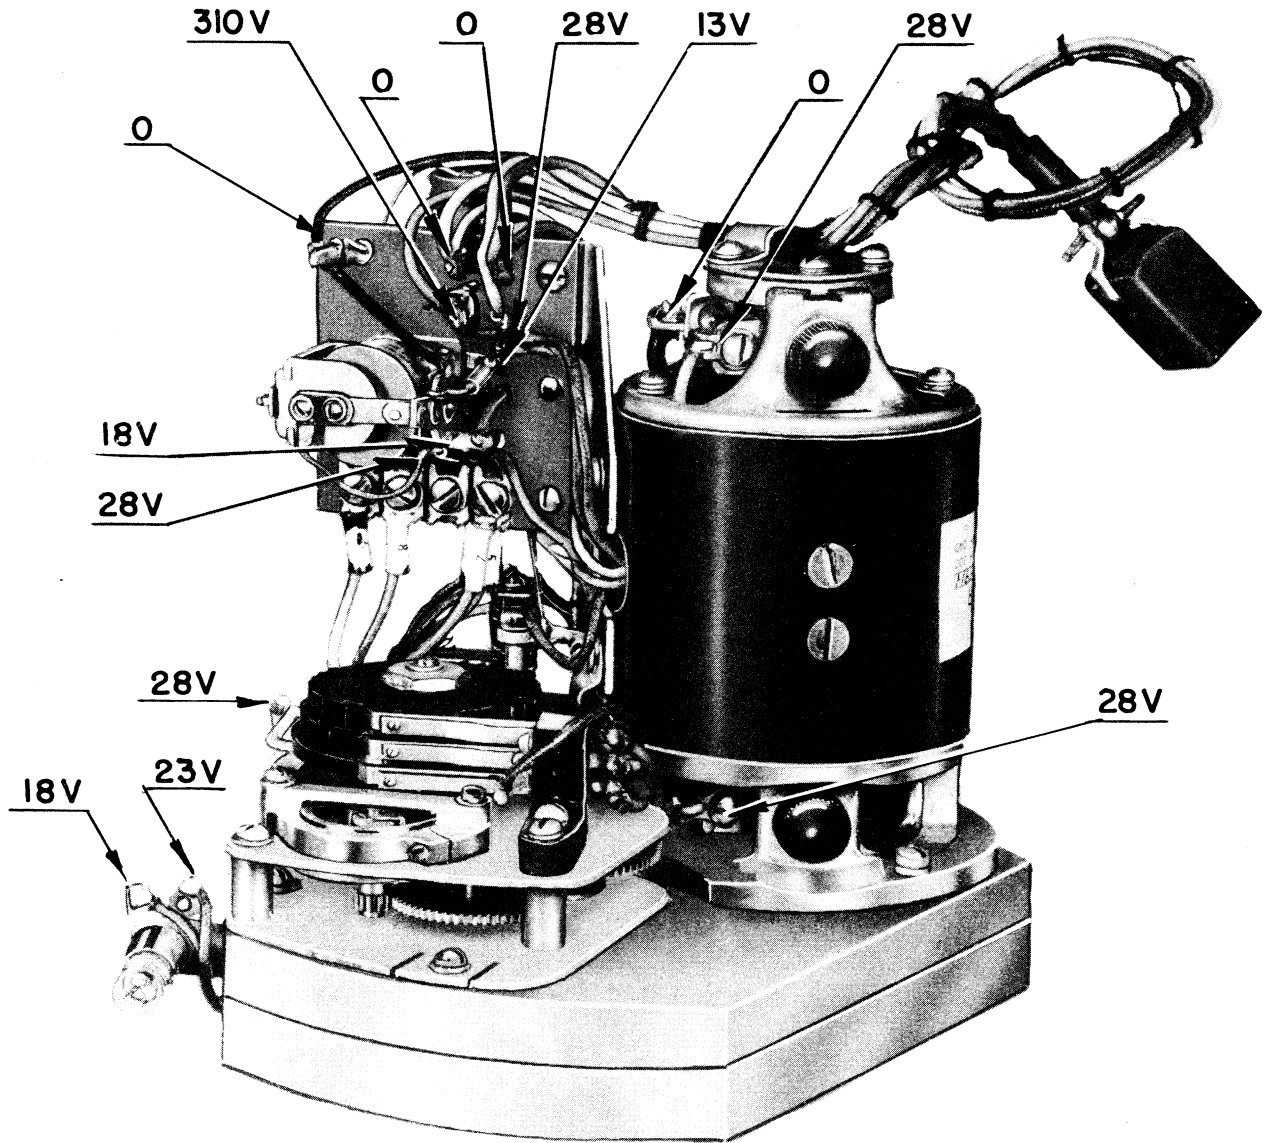

Figure 28—Radio Transmitter BC-778-C, BC-778-D or BC-778-E, Point Voltages of Power Supply
*b.* Approximate voltages above chassis ground in the power supply for all models, except Radio Transmitter BC-778-A, are shown in figure 28. These readings were taken with a 20,000-ohms-per-volt meter and with the crank turned at the speed indicated above.